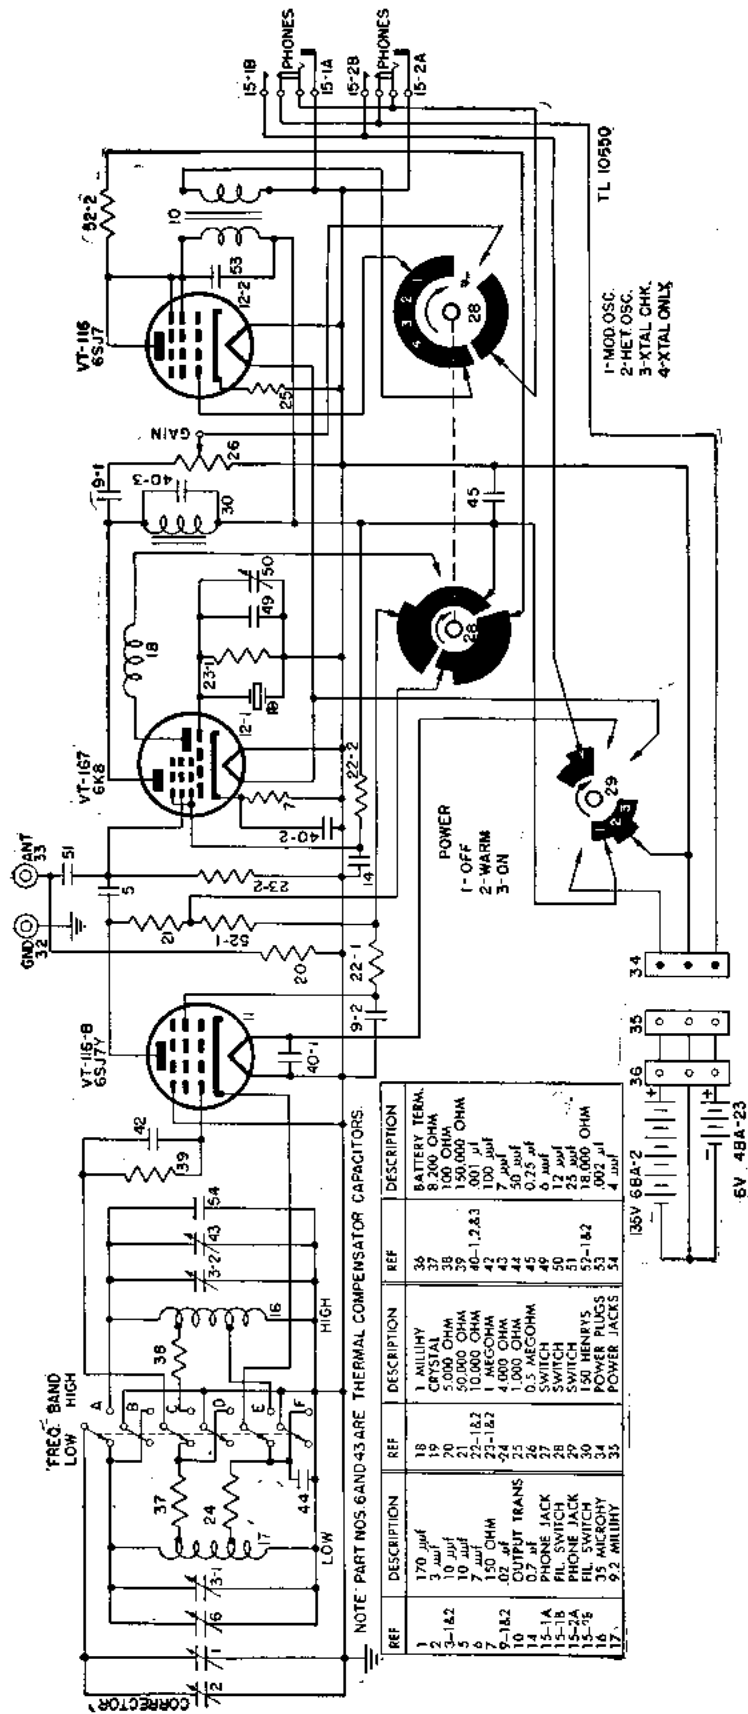

Figure 99. Frequency Meter BC-221-AJ, schematic diagram.
ulator circuit. The POWER switch has three positions instead of the two positions formerly used. At the third position of the POWER switch, WARM-UP, only the filament of variable frequency oscillator Tube VT-116-B (6SJ7Y) draws current. (See figs. 99 and 100.)
e. OSCILLATOR FUNCTION. (1) The variable frequency oscillator circuit is in operation whenever the POWER switch 29 is in the ON position, the operation switch 28 is in the MOD. OSC., HET. OSC., or XTAL CHK position, and a headset is plugged into a PHONES jack. (See figs. 99 and 100.)
328. Power Supply Circuit (figs. 99 and 100)